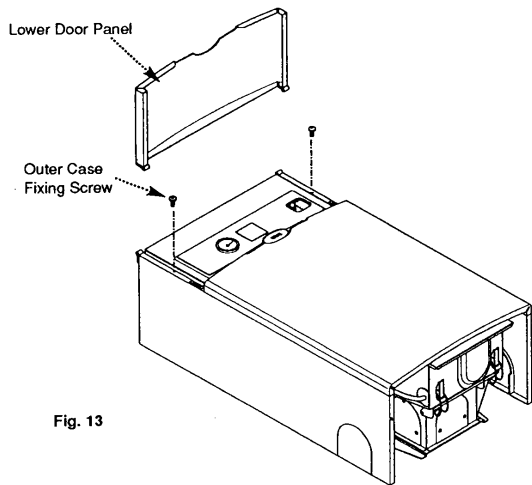

Fig. 13
1. Remove the hinged lower door panel from the outer case by opening it to 90° and pulling forwards (Fig. 13).
2. Remove the 2 screws holding the outer case to the combustion box (Fig. 13).